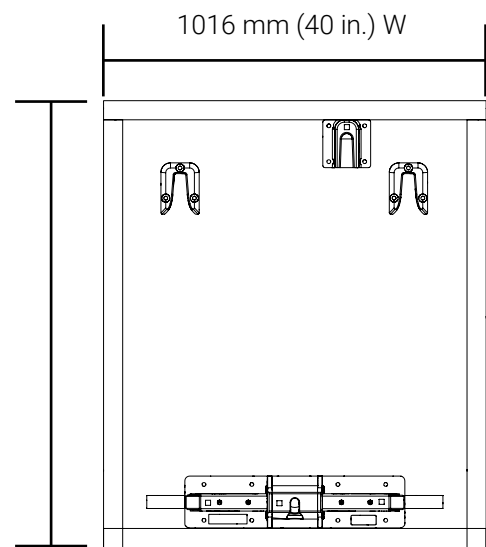

Figure 29: Application of the tripping hazard marking tape PRT-008-121 and 50.8 mm (2 in.) W X 609.6 mm (24 in.) L stretcher alignment decal PRT-008-122
- Draw a 1016 mm (40 in.) W X 1143 mm (45 in.) H border around the AnchorMed Floor Mount components, to identify the tripping hazard perimeter using marking tape PRT-008-121 (Figure 29 A).
- Stick the 50.8 mm (2 in.) W X 609.6 mm (24 in.) H stretcher alignment decal PRT-008-122 on the floor, outside the tripping hazard perimeter and centered with the Floor Anchor towards patient foot end (Figure 29 B).